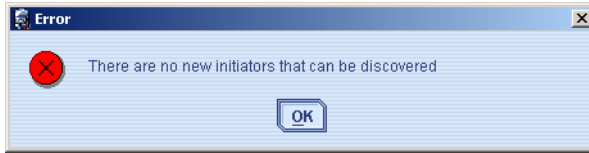

Figure 4-107 No new initiators can be discovered
23. Repeat steps 21 on page 142 and 22 until all initiators are defined. An error message informs when no more initiators are available. See Figure 4-107.